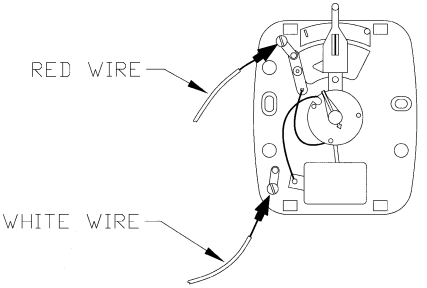

Figure 6 - Connecting Thermostat Wires to Thermostat
- Connect thermostat wires to the two terminal screws on back of thermostat (see Figure 6). Connect red wire to "R" terminal. Connect white wire to "W" terminal.